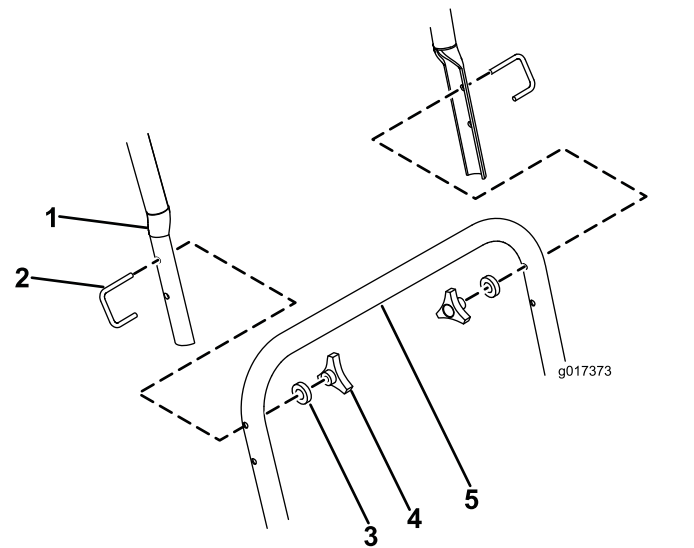

Figure 4
5. Connect the upper handle to the lower handle by securing each side with a U bolt, an M6 washer, and a handwheel (Figure 4).